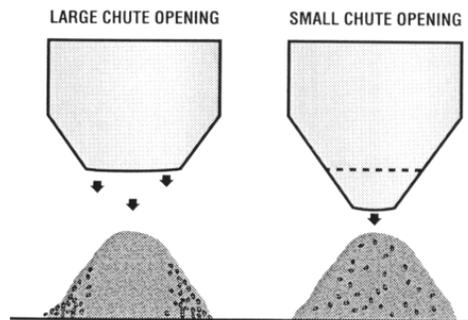

Figure 30. Less Segregation with Smaller Chute Opening.
- b. The batcher must be loaded directly in the center and the material from the chute loading the batcher should have no horizontal trajectory (see Figures 28 and 29). Also, whenever mix is discharged through a chute, a small chute opening minimizes segregation (see Figure 30). Remember, if the material segregates in the batcher, it will segregate throughout the bin.